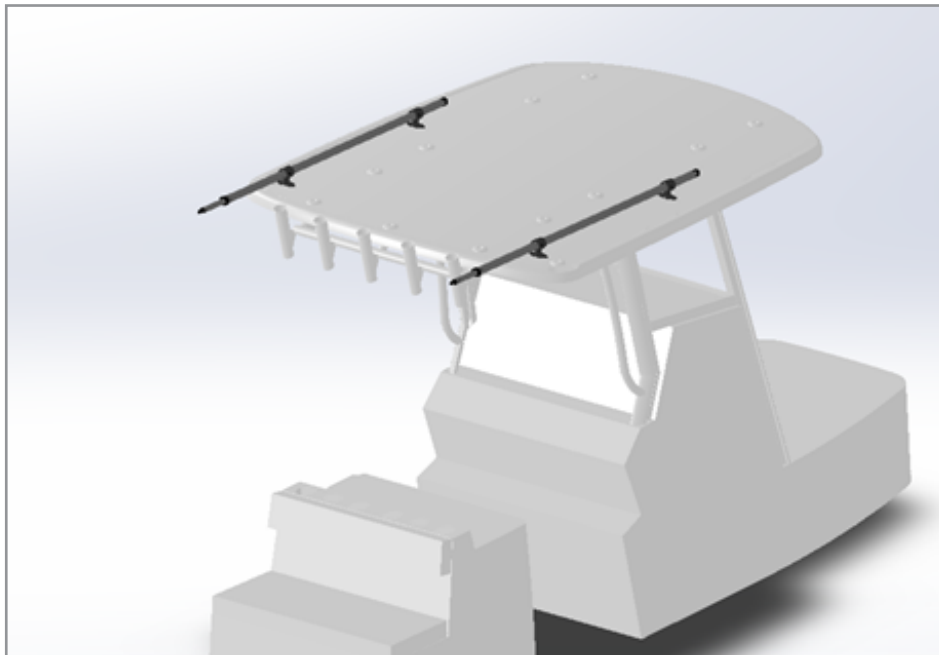

Fig.6
3. Place the two rear grab bar clamps on the hard top and slide actuators into the clamps (**Fig. 6**). Confirm that the CLD is the same for these two mounts before drilling additional holes. Once confirmed, drill holes and loosely install mounting hardware (not included) to hold in place.